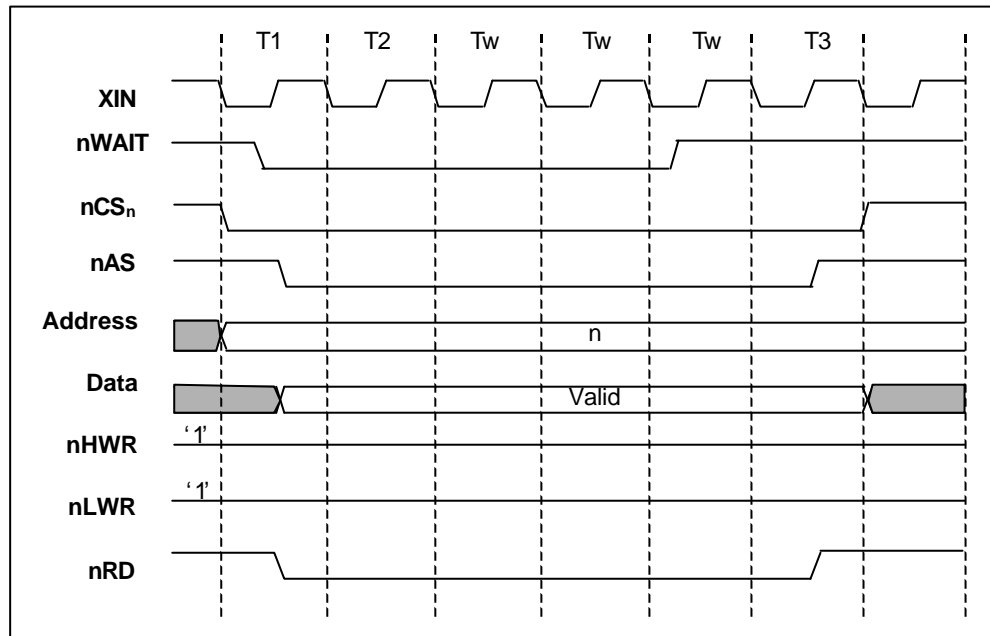

Figure 3.17 Example of Wait State Insertion Timing.
**Figure 3.17** shows an example of the timing for insertion of one program wait state in 3-wait-state space.